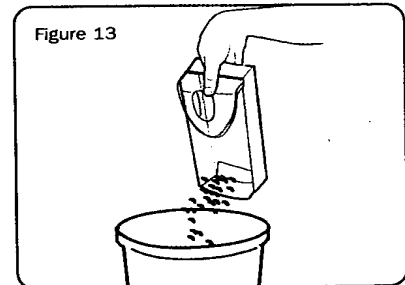

Figure 13
2. Empty dust from the Dust Container (4), (fig.13).